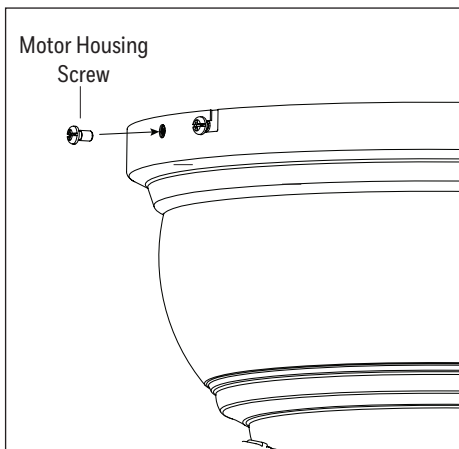

Figure 2.7
7. Slide the motor housing over the motor, aligning the slotted holes in the motor housing with the two loosened motor housing mounting screws in the upper mounting bracket. Twist the motor housing to lock. Then reinstall the two previously-removed motor housing screws and securely tighten all screws (Figure 2.7).